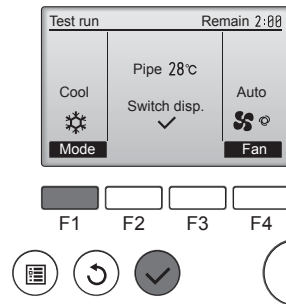

Fig. 7-6
- ① Press the **[F1]** button to go through the operation modes in the order of "Cool" and "Heat". (Fig. 7-6)